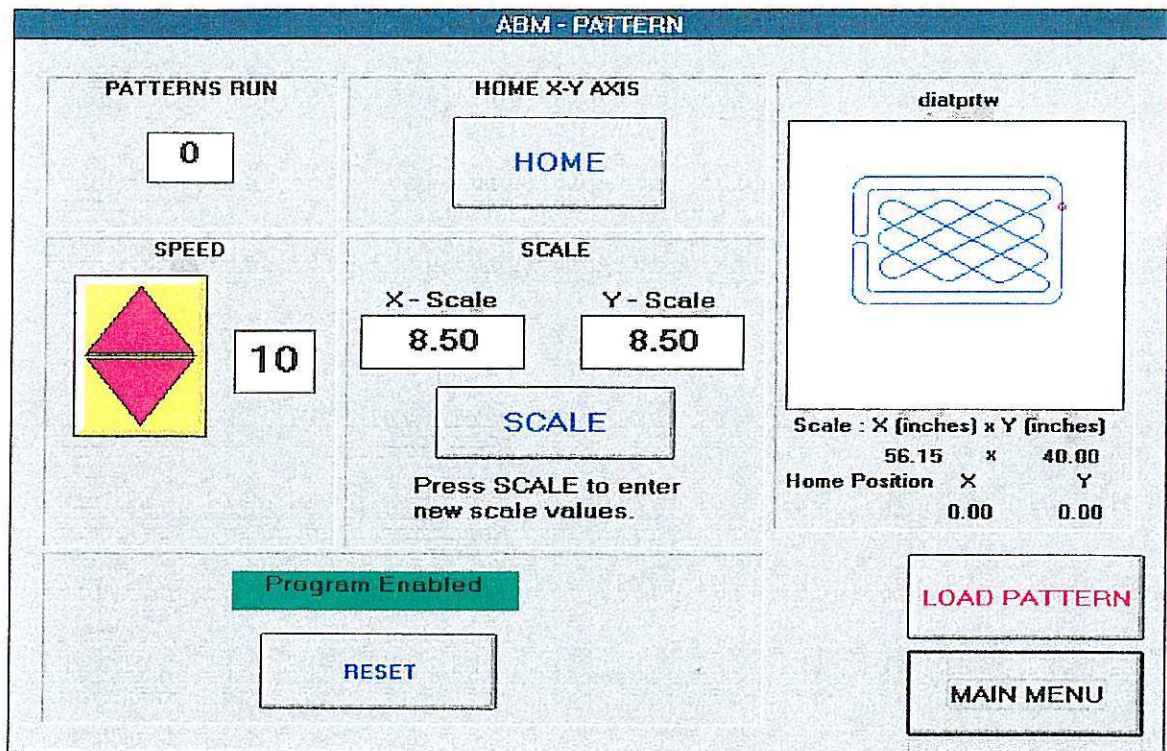

Figure 4.8
B. Press the "Operator" function key on the Color touch screen and the operator screen appears. See *Figure 4.8*.